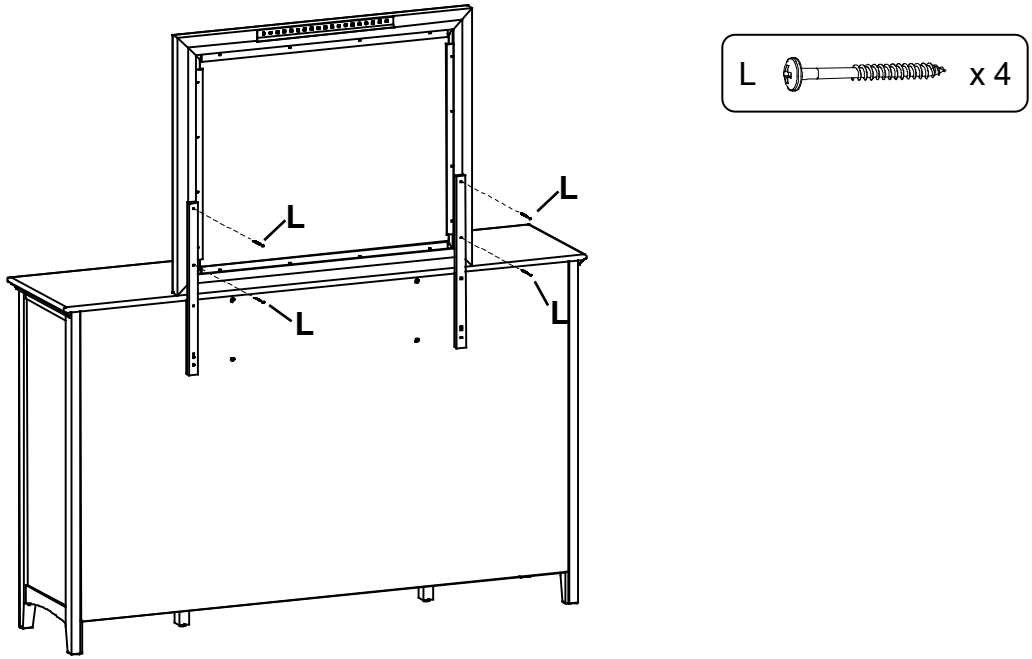

Fig. 9
9. Place the Mirror on top of the Dresser and attach it to the Mirror Supports (F) with four #7 x 1-1/2" Black Pan Head Screws (L). See Figure 9.